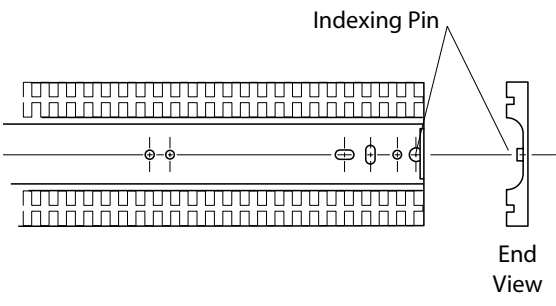

figure 4
- A mounting screw must always be used in the front most slide hole (fig. 4)